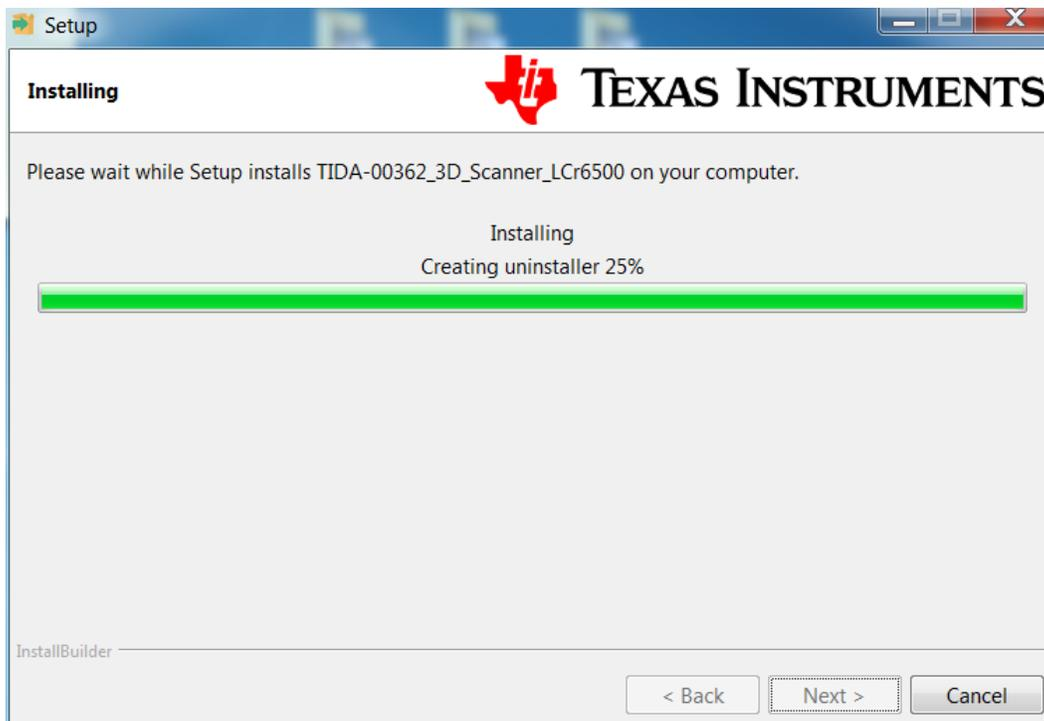

Figure 2-24. 3D Scanner Reference Design File Installation Progress
7. Wait for the files to install in the location specified, as shown in Figure 2-24.